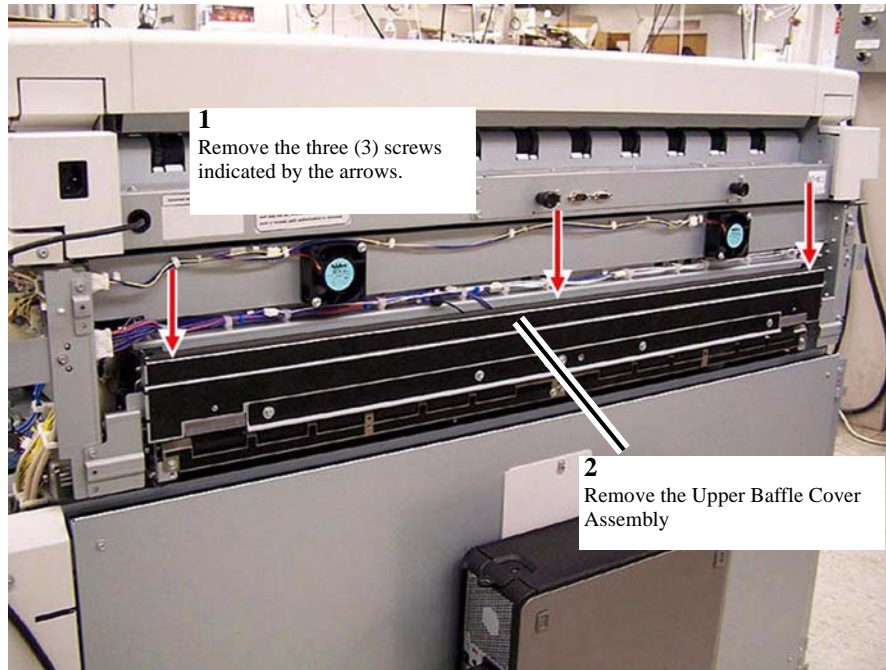

Figure 2 Removal of Upper Baffle Cover Assembly
4. Remove the Upper Baffle Cover Assembly (Figure 2).